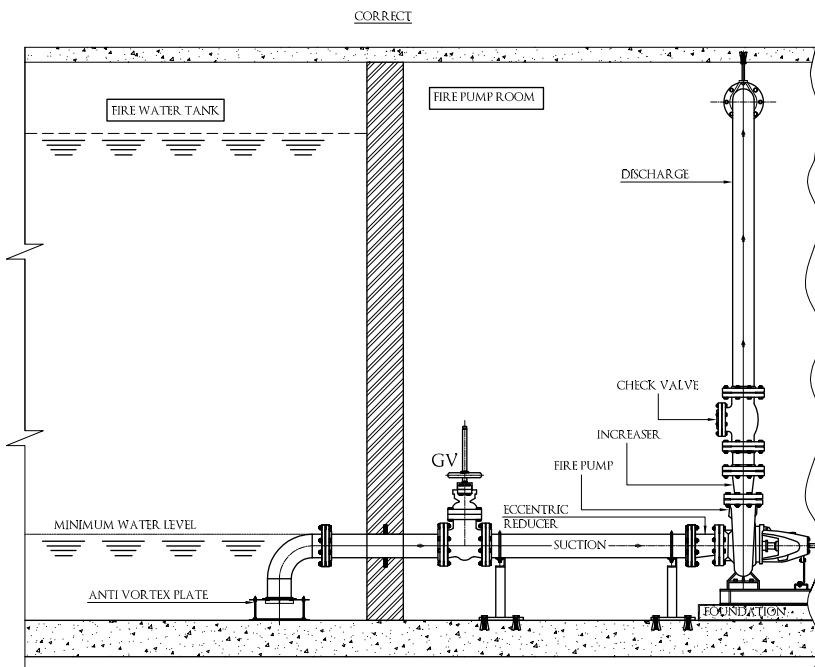

Fig. No. 08
- » NFPA 20 no longer permits fire pumps to operate under a suction lift condition – that is, a negative pressure is not permitted at the suction flange. (See fig. no. 08 and 09).